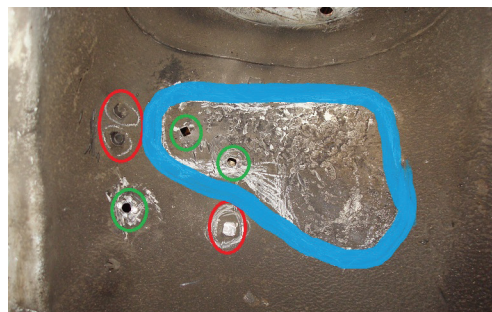

fig. 8
2. To gain full use of the camber plates, some inner fender modifications should be done to insure clearance around the new air spring assembly (fig. 8). All bolts should be trimmed flush with the mounting nuts. All unused nuts should be removed. Some vehicles may require some modification to form the sheet metal away from the air spring (2000 Impreza RS left inner fender shown: RED=trim, GREEN=remove, BLUE=form).